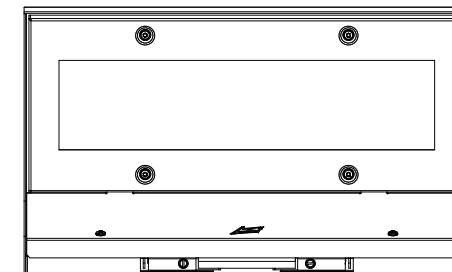

Figure 8
9. While keeping the mounting arm pins in their slots, mount the luminaire to the wall mounting plate by sliding from top to bottom over the plate. See Figure 8. **NOTE: Make sure no wires are pinched in wire grommet!**